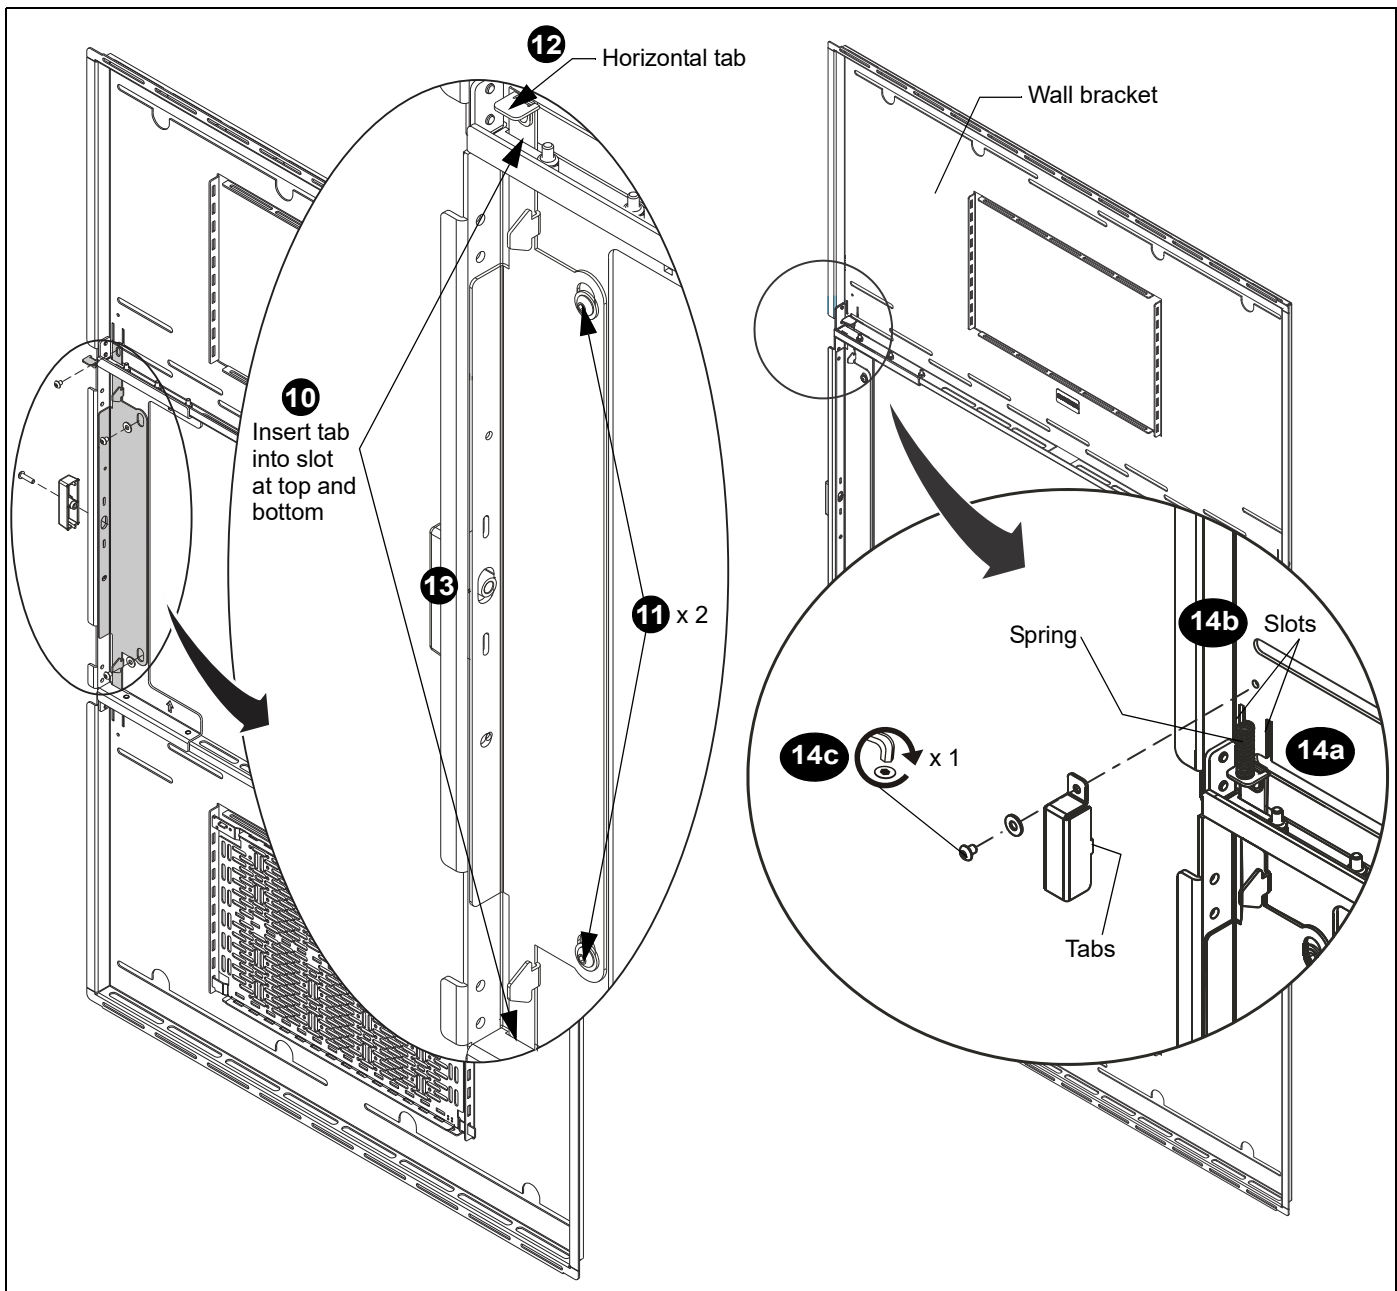

Figure 17
NOTE: Be sure that upper and lower tabs are slid into slots on wall bracket. (See Figure 17)
11. Fasten in place with two washers and screws removed in Step 1. (See Figure 17)
12. Re-install small horizontal tab removed from bottom of latch section in Step 1, by fastening it onto the top of the latch section. (See Figure 17)
13. Re-install outside latch using fastener removed in Step 1. (See Figure 17)
14. Re-install inside latch: (See Figure 17)